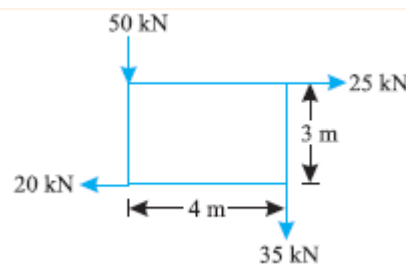

Fig.1
- A system of forces are acting at the corners of a rectangular block as shown in Fig.1. Determine the magnitude and direction of the resultant force. [L4][6 M]